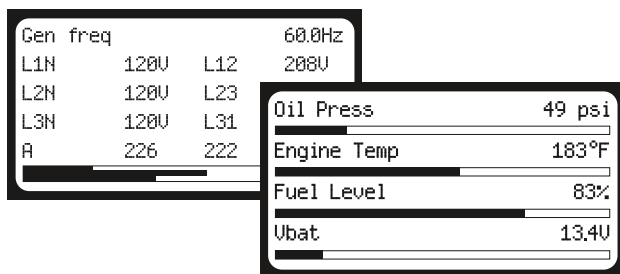

Figure 3-4. Generator Monitoring
6. See Figure 3-4. The running screen displays
7. See Figure 3-4. The LCD window will toggle from the running screen to the generator display screen and then to the engine display screen.